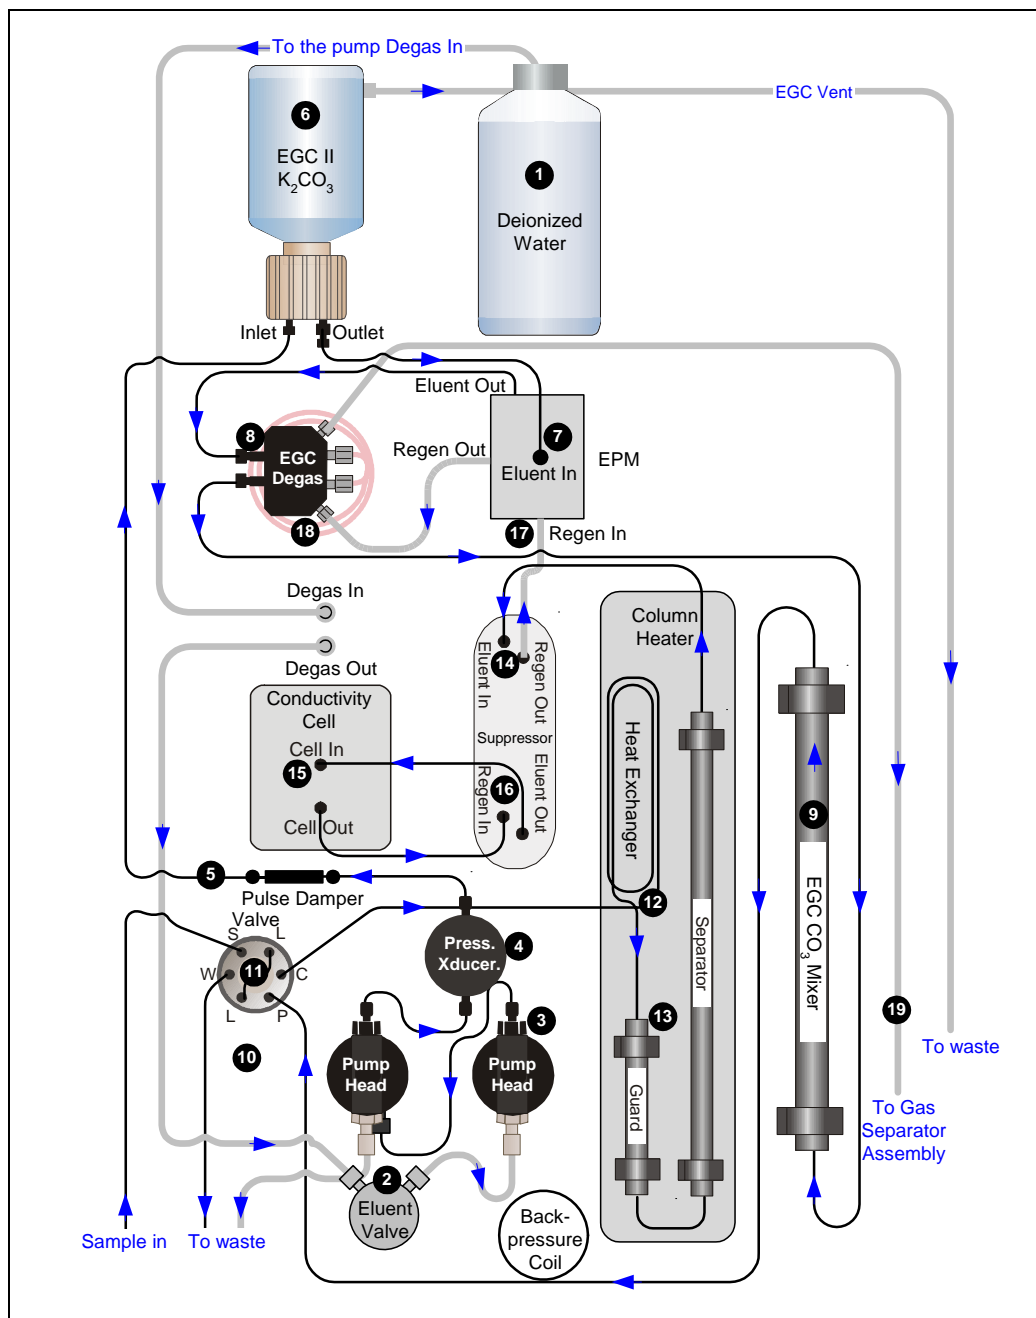

Figure 2-14. ICS-2000 Flow Schematic: Carbonate/Bicarbonate Eluent Generation
- Figure 2-14 illustrates the liquid flow path when the components required for producing carbonate/bicarbonate eluent are installed. The required components include an EGC II K₂CO₃ EluGen Cartridge, an EPM Electrolytic pH Modifier, and an EGC CO₃ Mixer.
Refer to Figure 2-14 for the flow path number locations.